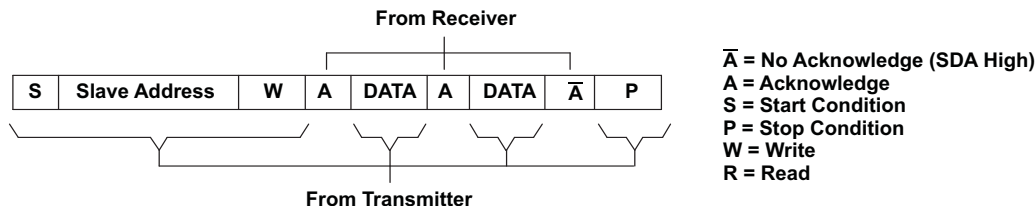
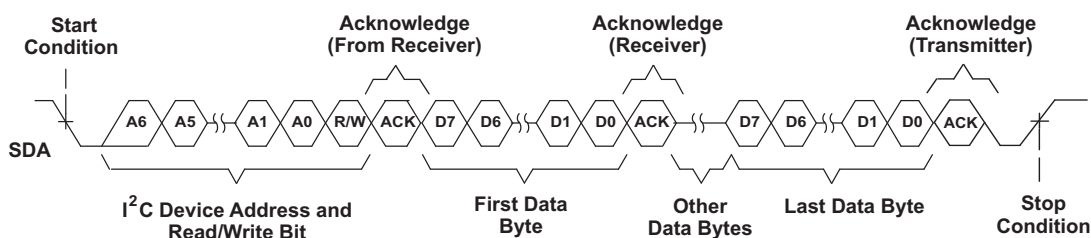
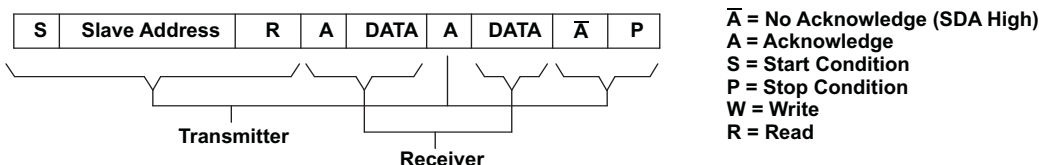
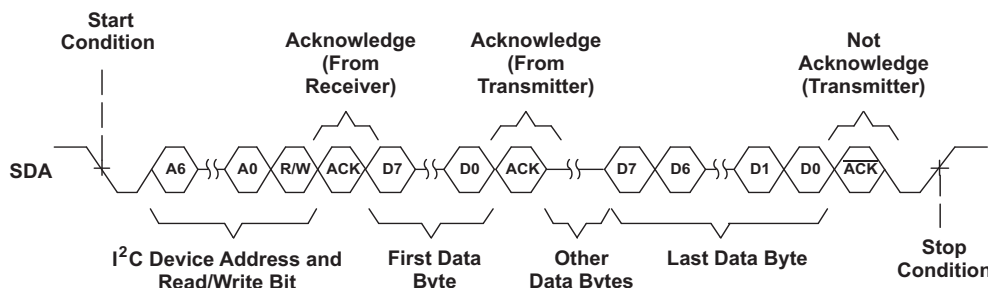

Figure 9. I²C Write Cycle
Figure 10. Multiple Byte Write Transfer
Figure 11. I²C Read Cycle
Figure 12. Multiple Byte Read Transfer
During a write cycle, the transmitting device must not drive the SDA signal line during the acknowledge cycle, so that the receiving device may drive the SDA signal low. After each byte transfer following the address byte, the receiving device pulls the SDA line low for one SCL clock cycle. A stop condition is initiated by the transmitting device after the last byte is transferred. Figure 9 and Figure 10 show an example of a write cycle. Note that the THS7347 does not allow multiple write transfers to occur. See the example, **Writing to the THS7347**, in **WRITE AND READ EXAMPLES** for more information.
During a read cycle, the slave receiver acknowledges the initial address byte if it decodes the address as its address. Following this initial acknowledge by the slave, the master device becomes a receiver and acknowledges data bytes sent by the slave. When the master has received all of the requested data bytes from the slave, the not acknowledge ( $\bar{A}$ ) condition is initiated by the master by keeping the SDA signal high just before it asserts the stop (P) condition. This sequence terminates a read cycle, as shown in Figure 11 and Figure 12. Note that the THS7347 does not allow multiple read transfers to occur. See the example, **Reading from the THS7347**, in **WRITE AND READ EXAMPLES** for more information.
The THS7347 operates using only a single-byte transfer protocol similar to that illustrated in Figure 9 and Figure 11. The internal subaddress registers and the functionality of each are given in Table 2. When writing to the device, it is required to send one byte of data to the corresponding internal subaddress. If control of all three channels is desired, then the master must cycle through all the subaddresses (channels) one at a time; see the example, **Writing to the THS7347** (in WRITE AND READ EXAMPLES) for the proper procedure of writing to the THS7347.